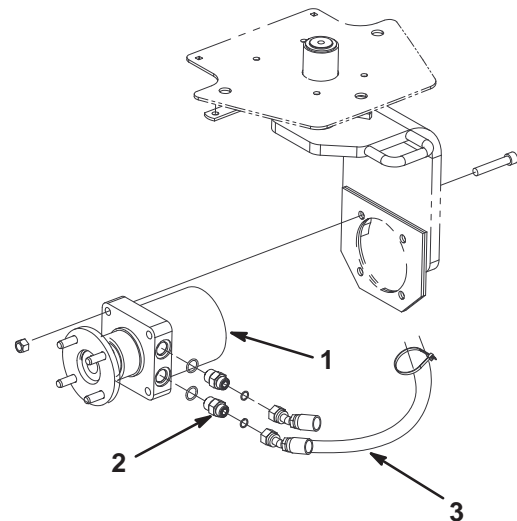

Figure 2
4. Mount (2) straight hydraulic fittings to the side of the new wheel motor (Fig. 2).
5. Mount the 45° fitting ends of the hydraulic hose assemblies to the straight fittings on the motor (Fig. 2).
6. Mount the motor assembly to the castor fork with the (4) bolts and nuts previously removed. Position the motor assembly as shown in figure 2.
7. Mount the tire assembly to the motor and hub assembly with the (4) lug nuts previously removed. Torque the lug nuts to 70 to 90 ft.-lb (95 to 122 N·m).